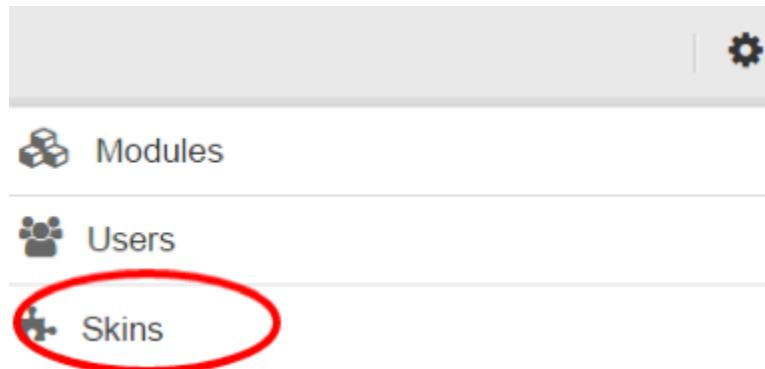

Figure 10.3: Go to menu Skin
2. Go to Menu -> Skins as shown in Figure 10.3.